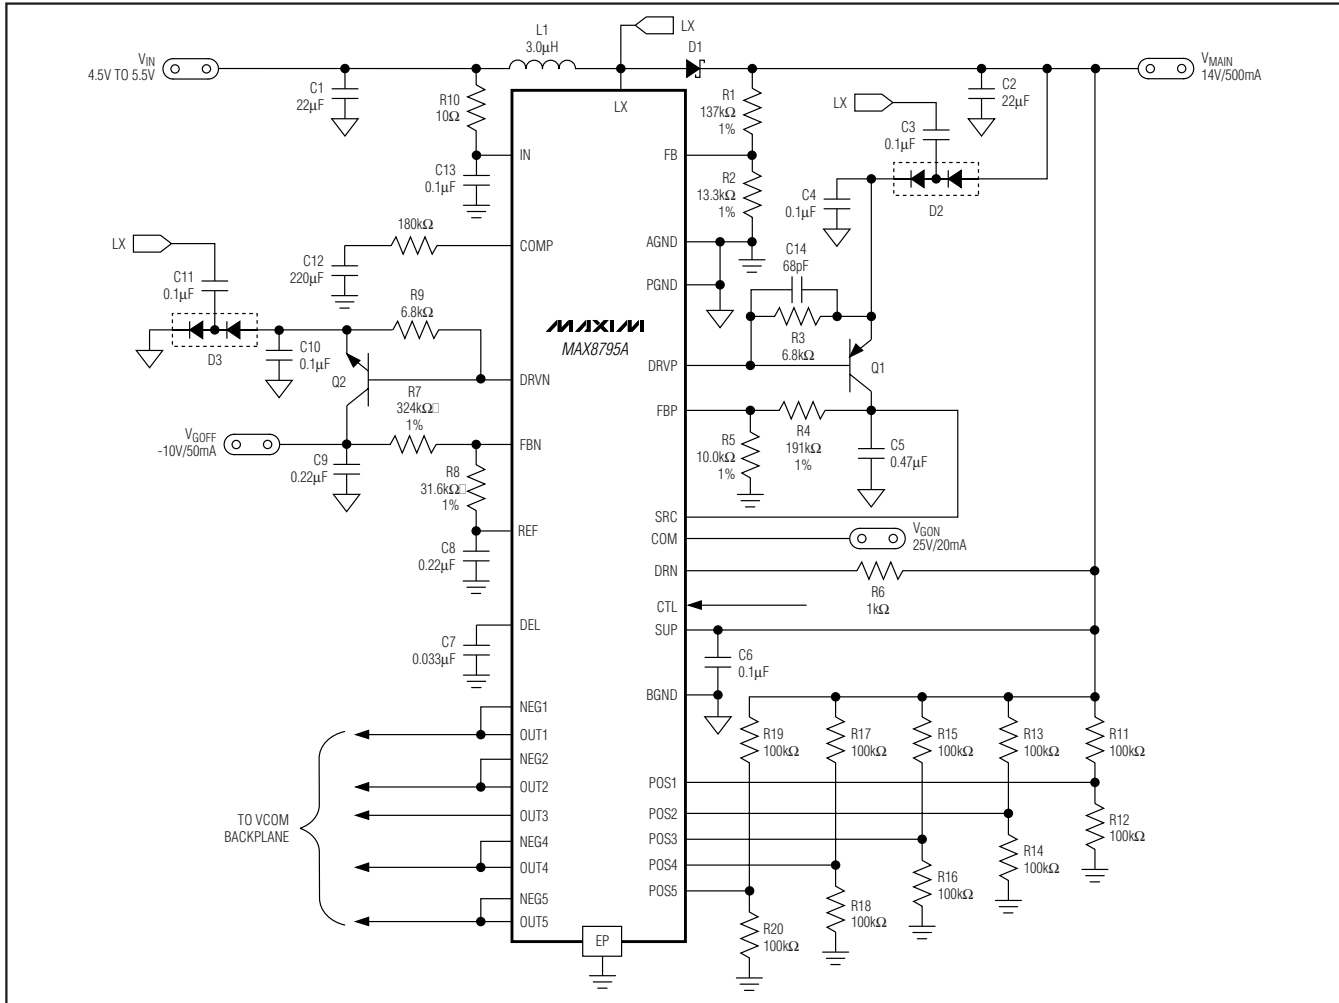

Figure 1. Typical Operating Circuit
(Circuit of Figure 1, $V_{IN} = 5V$, $V_{MAIN} = 14V$, $V_{GON} = 25V$, $V_{GOFF} = -10V$, $T_A = +25^\circ C$, unless otherwise noted.)
The MAX8795A typical operating circuit (Figure 1) is a complete power-supply system for TFT LCDs. The circuit generates a +14V source-driver supply and +25V and
-10V gate-driver supplies. The input voltage range for the IC is from +2.5V to +5.5V. The listed load currents in Figure 1 are available from a +4.5V to +5.5V supply. Table 1 lists some recommended components, and Table 2 lists the contact information of component suppliers.
The gate-on linear-regulator controller (REG P) is an analog gain block with an open-drain n-channel output. It drives an external pnp pass transistor with a 6.8kΩ base-to-emitter resistor (Figure 1). Its guaranteed base-drive sink current is at least 1mA. The regulator including Q1 in Figure 1 uses a 0.47μF ceramic output capacitor and is designed to deliver 20mA at 25V. Other output voltages and currents are possible with the proper pass transistor and output capacitor. See the *Pass-Transistor Selection* and *Stability Requirements* sections.
The gate-off linear-regulator controller (REG N) is an analog gain block with an open-drain p-channel output. It drives an external npn pass transistor with a 6.8k Ω base-to-emitter resistor (Figure 1). Its guaranteed base-drive source current is at least 1mA. The regulator including Q2 in Figure 1 uses a 0.47 μ F ceramic output capacitor and is designed to deliver 50mA at -10V. Other output voltages and currents are possible with the proper pass transistor and output capacitor (see the *Pass-Transistor Selection* and *Stability Requirements* sections).
REG N is typically used to provide the TFT-LCD gate drivers' gate-off voltage. A negative voltage can be produced using a charge-pump circuit as shown in Figure 1. REG N is enabled after the voltage on REF exceeds 1.0V. Each time it is enabled, the control goes through a soft-start routine that ramps down its internal reference DAC from VREF to 250mV in 128 steps.